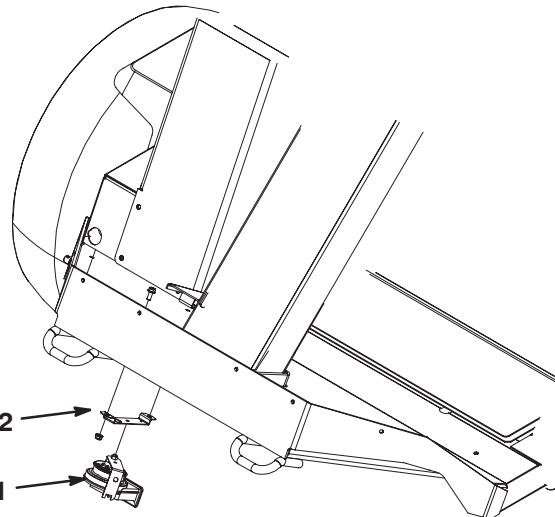

Figure 7
1. Secure the horn mounting bracket to the floor plate brace with (2) 5/16 x 3/4" screws and nuts (Fig. 7).